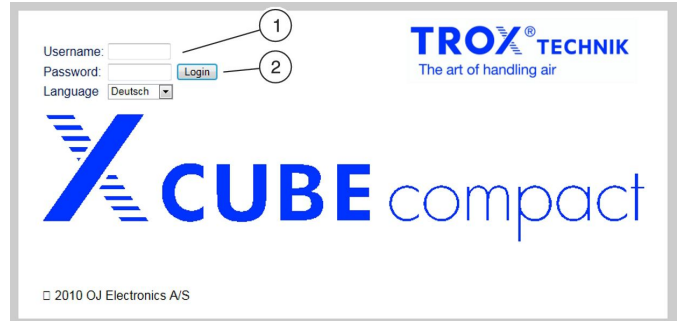

Fig. 42: Logging in to the web server
1. ▶ Enter your user name ( Fig. 42 /1).
3. ▶ Select 'Login' ( Fig. 42 /2).